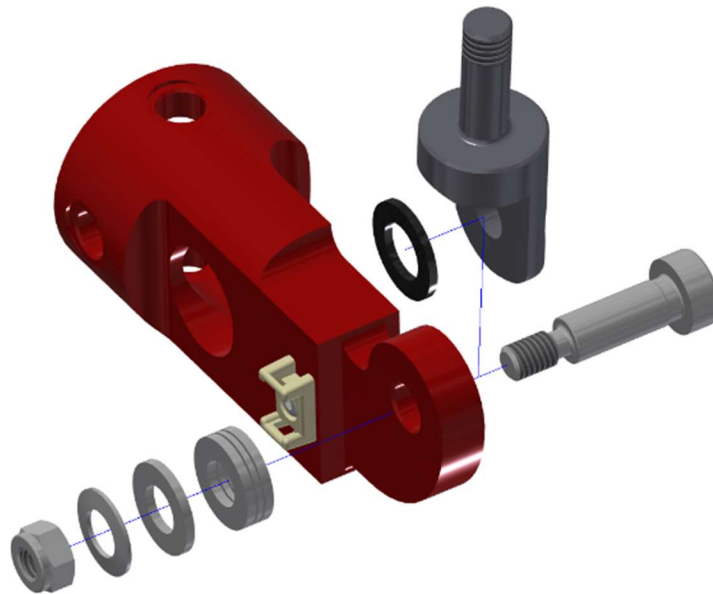

Figure 11-11. Separate the Shoulder Clevis (483-3504) from the Distal Upper Arm Tube (484-6110)
11.2.8 Separate the Shoulder Clevis (483-3504) from the Distal Upper Arm Tube (484-6110) by removing the M8 X 20 LG. SHSS and M6 X 1 Hex Lock Nut (Figure 11-11).